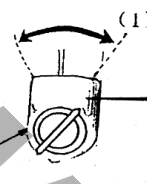

Fig. 11 (1) ON
- 3) Turn the engine switch to the ON position. (Fig. 11)